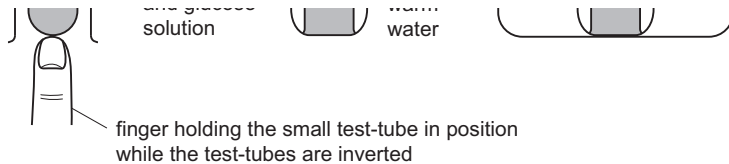

Fig. 1.1
Step 5 Keep the small test-tube upright and carefully place a large test-tube over the top of the small test-tube labelled **1%**. Push the small test-tube up to the top of the large test-tube, as shown in Fig. 1.1**A**. Quickly invert the test-tubes, as shown in Fig. 1.1**B**.